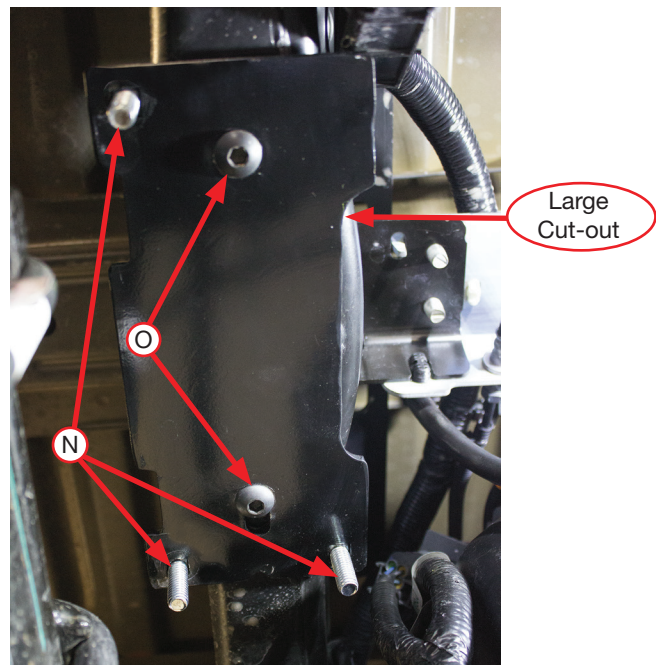

Fig. 6
4. Insert the 3/8"-16 x 1 1/4" carriage bolts (N) into the upper frame bracket (D). Install the upper frame bracket onto the frame using the M10-1.5 x 35mm button head cap screws (O) so that the large cut-out on the side of the bracket is inboard of the frame rail and the slotted hole in the center is forward (Fig. 6). Torque hardware to 38 lb.-ft. (52Nm).